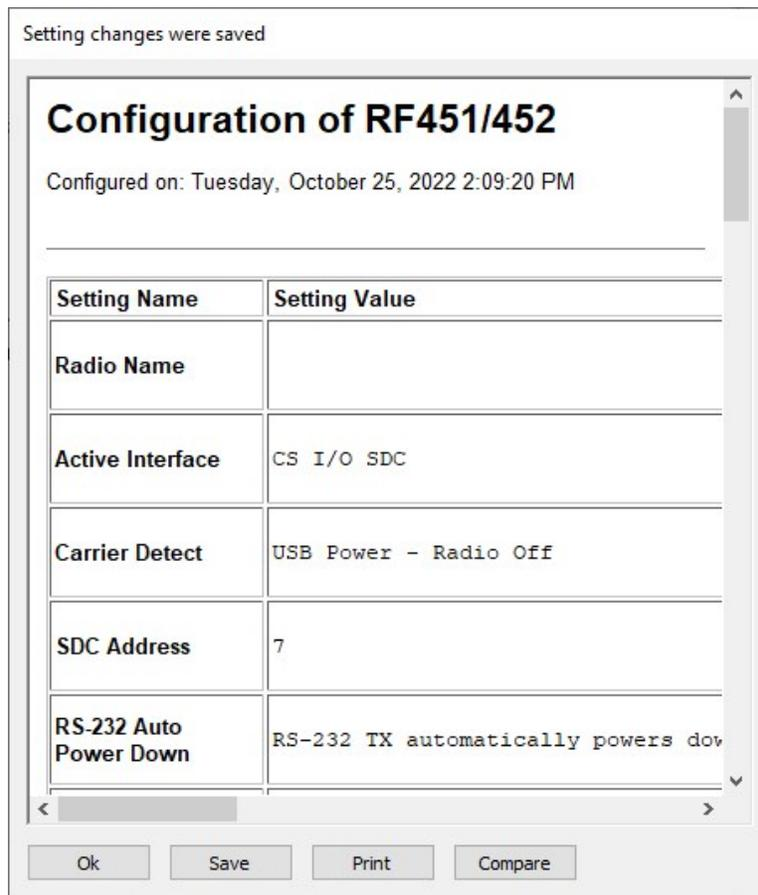

Figure 7-3. *Device Configuration Utility* RF451/RF452 summary screen
*Device Configuration Utility* makes applying the same settings to multiple devices easy. Once settings are configured for one device, click **Apply** to save your changes; a summary screen similar to Figure 7-3 (p. 10) will be shown. Click **Save** to save a configuration file. This file can then be used to load the settings into another RF451/RF452. Click **Read File** to load the settings in *Device Configuration Utility*. Then click **Apply** to save your changes to load the settings into the RF451/RF452.